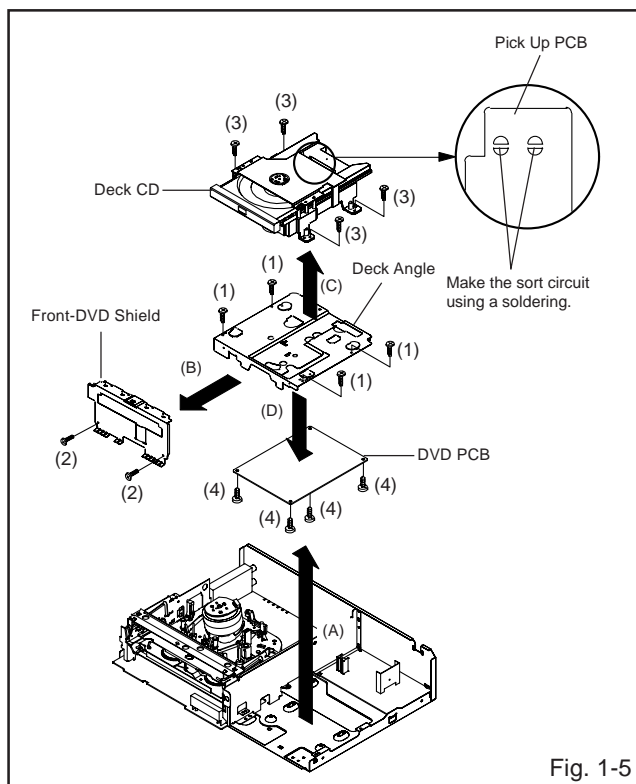

Fig. 1-5
1-5: DECK CD AND DVD PCB (Refer to Fig. 1-5)
1. Make the short circuit on the position as shown Fig. 1-5 using a soldering. If you remove the Deck CD with no soldering, the Laser may be damaged.
3. Remove the 4 screws (1).
4. Remove the Deck Angle in the direction of arrow (A).
5. Remove the 2 screws (2).
6. Remove the Front-DVD Shield in the direction of arrow (B).
7. Remove the 4 screws (3).
9. Remove the Deck CD in the direction of arrow (C).
10. Remove the 4 screws (4).
11. Remove the DVD PCB in the direction of arrow (D).